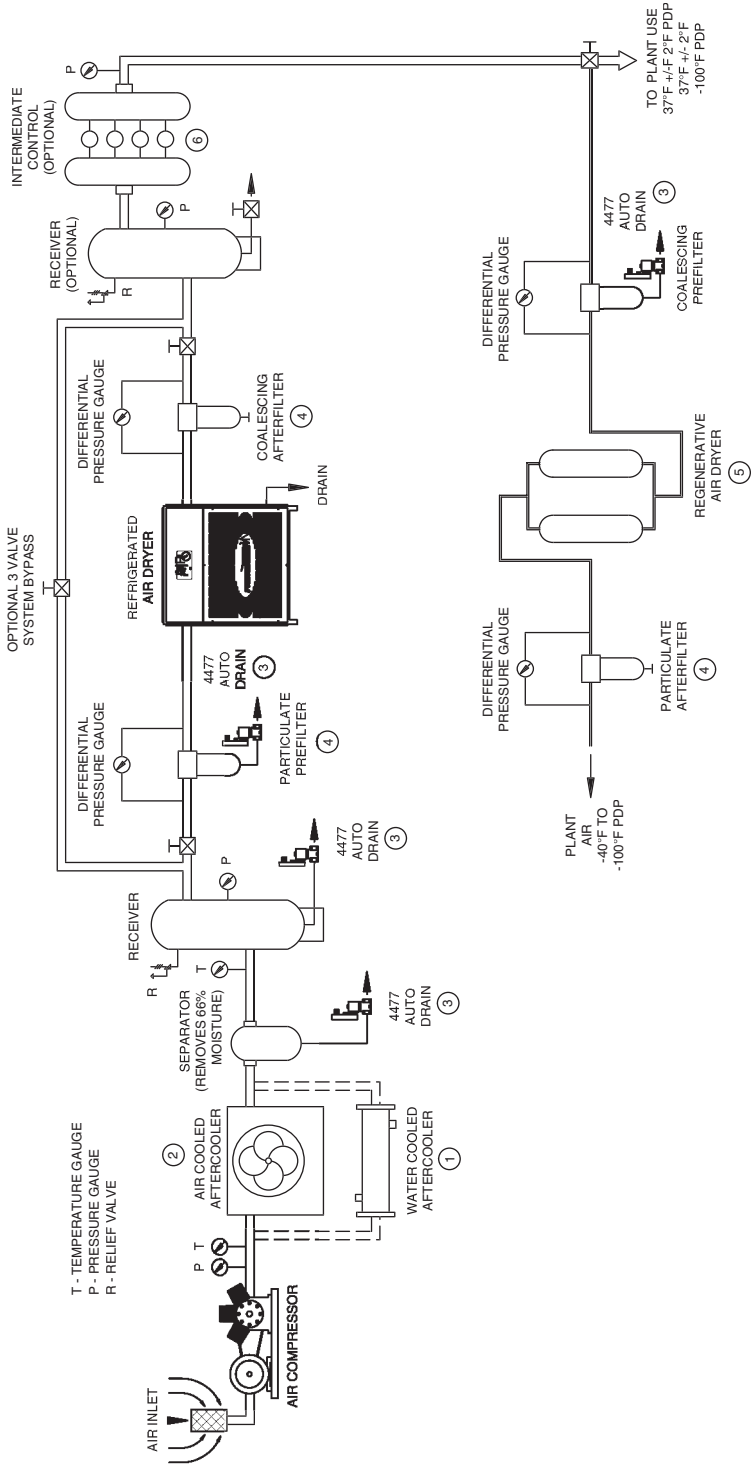

FIGURE 1 — COMPRESSED AIR SYSTEMS RECOMMENDED INSTALLATION FLOW DIAGRAM
- C. Connect the compressed air to the dryer inlet. Connect the plant compressed air line to the dryer outlet. A three-valve bypass around the dryer is recommended for dryer service. See Figure 1. A coalescing afterfilter is recommended for oil-flooded air compressor systems.
10. Keeping the dryer outlet isolation valve closed, pressurize the dryer to the line pressure. See Figure 1.